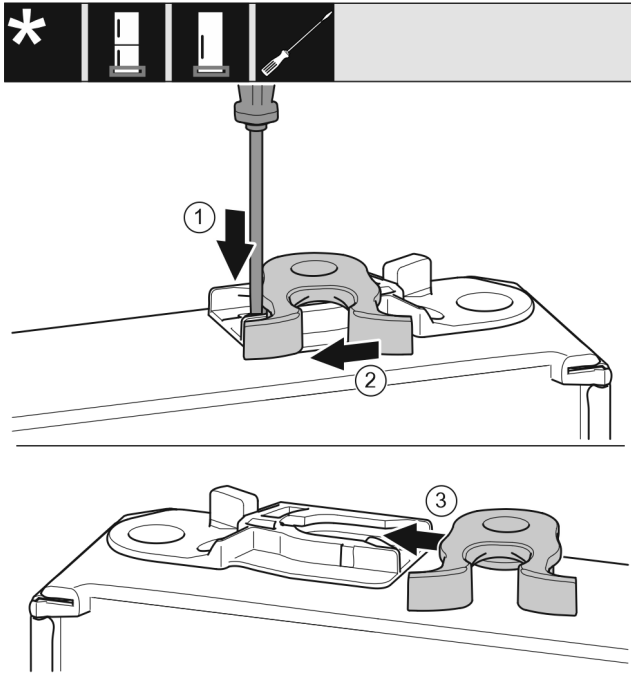

Fig. 39 *
- Use a slotted screwdriver to push the tab Fig. 39 (1) downwards.*
- Pull the closing hook Fig. 39 (2) out of the guide.*
- Insert the closing hook Fig. 39 (3) into the guide on the other side.*